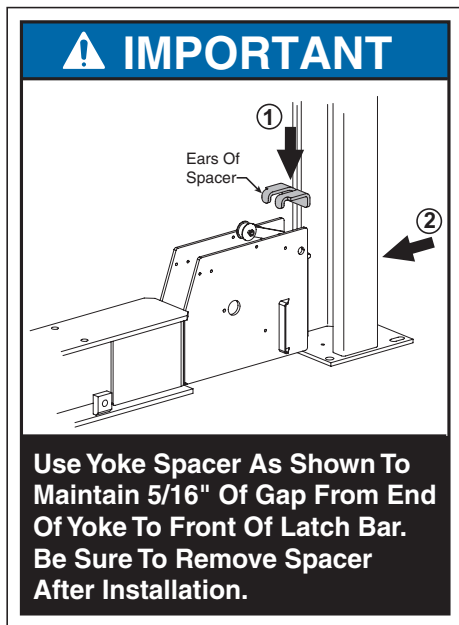

Fig. 8a
- Start with power unit column. Use yoke spacer tool to ensure $\frac{5}{16}$ " gap between column and yoke. Place yoke spacer tool on yoke end, Fig. 8a, with ears facing away from column. Slide yoke spacer tool so that the end of the tool opposite the ears is against the side of the yoke end facing the column.